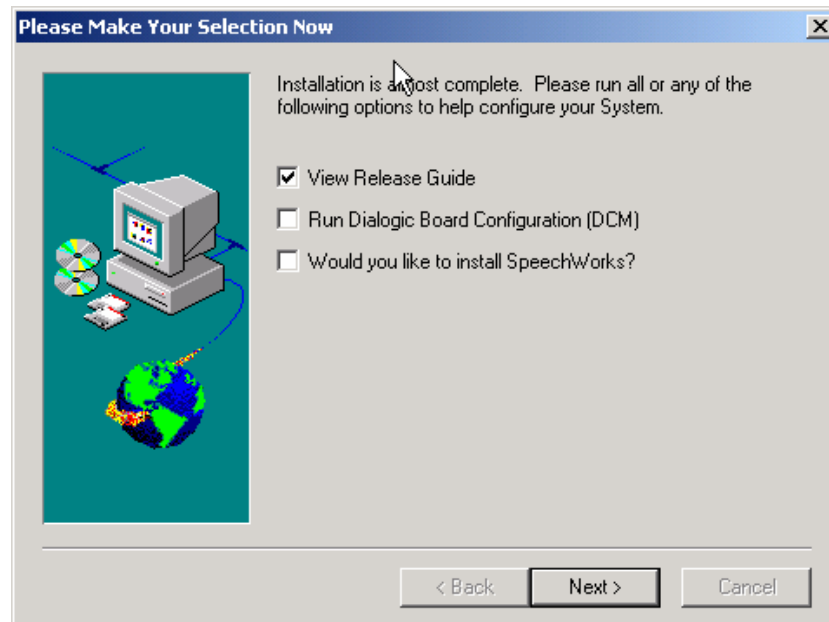

Figure B.11. Selection Dialog Box
9. The **Selection** dialog box will appear, as shown in **Figure B.11**. Check the **View Release Guide** check box, and then click the **Next** button to complete installation.